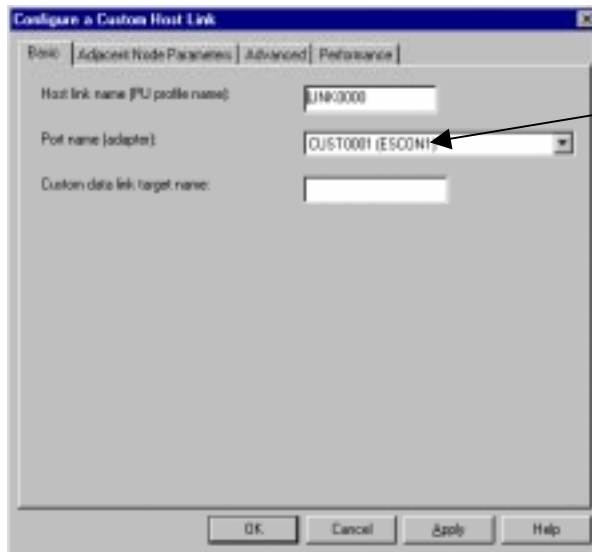

Figure 15-29. Link Configuration
4. Double click the link (LINK0000 above) to display the link’s properties (Figure 15-29).